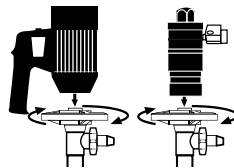

Figure 5
3. Couple the motor to the pump tube by using the gray hand wheel (see Figure 5). See page 9 and 11 for parts list.